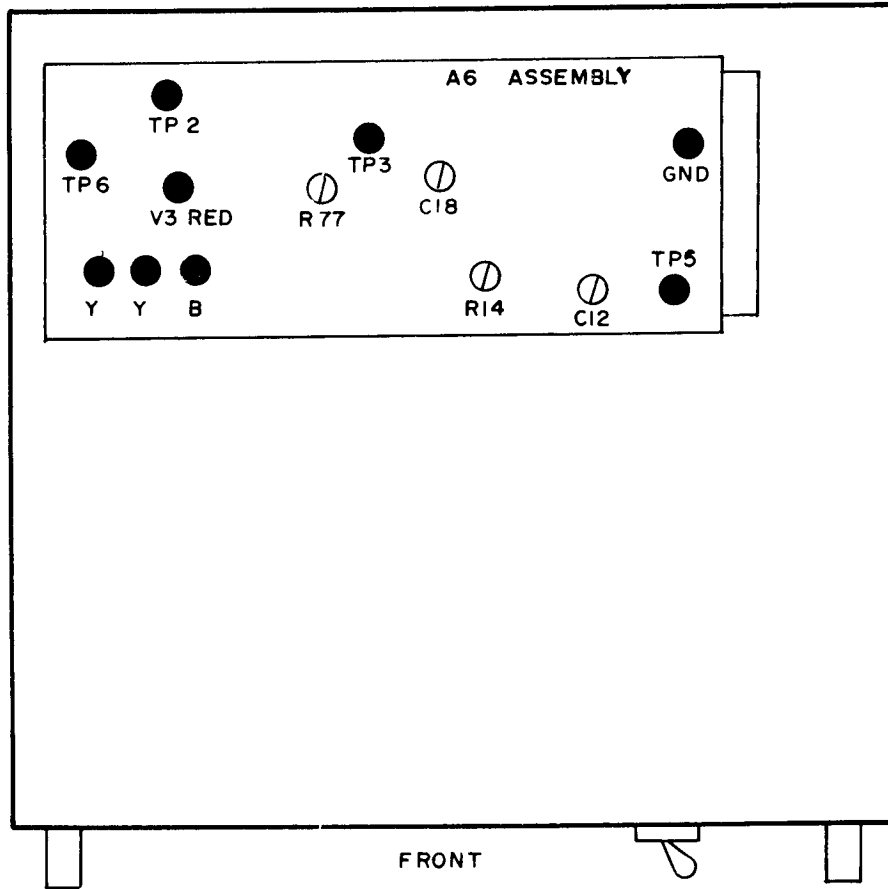
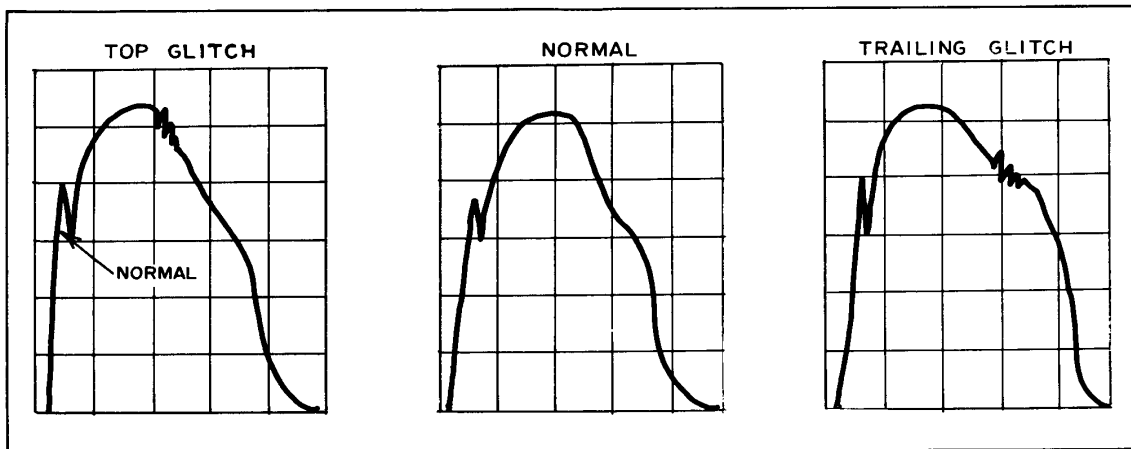

Figure 7. Model 746A bottom view - adjustment location.
Figure 8. Waveform at A6TP2.
(7) Remove bottom cover from TI (model 746A only). Remove plastic cover from A6 amplifier assembly (fig. 7).
(8) Connect ac/dc voltmeter high voltage leads between test point B (fig. 7) and GND (circuit ground).
(9) Press OUTPUT ON pushbutton.
(10) Adjust A6R14 (fig. 7) to obtain indication of 1850 V dc on ac/dc voltmeter (R).
(11) Move ac/dc voltmeter leads to test point A6TP6 (fig. 7) and GND (circuit ground).
(12) Adjust A6R77 (fig. 7) to obtain indication of 1820 V dc on ac/dc voltmeter (R).
(13) Press OUTPUT OFF pushbutton.
- (14) Connect variable capacitor across TI output (connect at isolation box, using cable). Set variable capacitor dial to 50 pF.
- (15) Connect oscilloscope (A7) to A6TP2 (fig. 7), using probe (B11).
- (16) Position TI controls as listed in (a) through (d) below:
- (17) Adjust (increase) TI output in 100 V steps to 700 V or until a glitch appears on waveform as shown in figure 8.
- (18) If no glitch appears, adjust (increase) capacitance of variable capacitor until it does appear. After glitch appears, adjust A6C18 (fig. 7) until waveform becomes clear and then another glitch appears. Note range of A6C18 between points where glitches appear.
- (19) Adjust (increase) capacitance of variable capacitor and adjust A6C18 until range as noted in (15) above is minimum (R).
- (20) Connect ac/dc voltmeter to A6TP6 (fig. 7) (same as V3 RED) and circuit ground, using leads supplied with ac/dc voltmeter.
- (21) Adjust A6R77 (fig. 7) to obtain indication of 1800 V dc on ac/dc voltmeter (R).
- (22) Adjust variable capacitor for 100 pF.
- (23) Adjust TI output from 700 V to 100 V. The oscilloscope will not show signs of oscillations.
- (24) Set voltage controls to obtain indication 700.000 V and adjust frequency from 110 to 10 kHz. If oscilloscope indication is not smooth with no oscillations, repeat (7) through (20) above.
(25) Set voltage controls to obtain indications of 100.000 V. Press FREQUENCY RANGE X1K pushbutton and adjust FREQUENCY control to obtain FREQ scale indication of 1.0.
(26) Connect ac/dc voltmeter between A6TP5 (fig. 7) and circuit ground, using cable and adapter (B6 and B2). If ac/dc voltmeter does not indicate 10 V ac, use ERROR RANGE pushbuttons and ERROR MEASUREMENT control to obtain 10 V ac indication.
(27) Press FREQUENCY RANGE X10K pushbutton and adjust FREQUENCY control to obtain FREQ scale indication of 10.0.
(28) If ac/dc voltmeter does not indicate between 10.3 and 10.7 V ac, adjust A6C12 (fig. 7) to obtain indication of between 10.3 and 10.7 V ac.